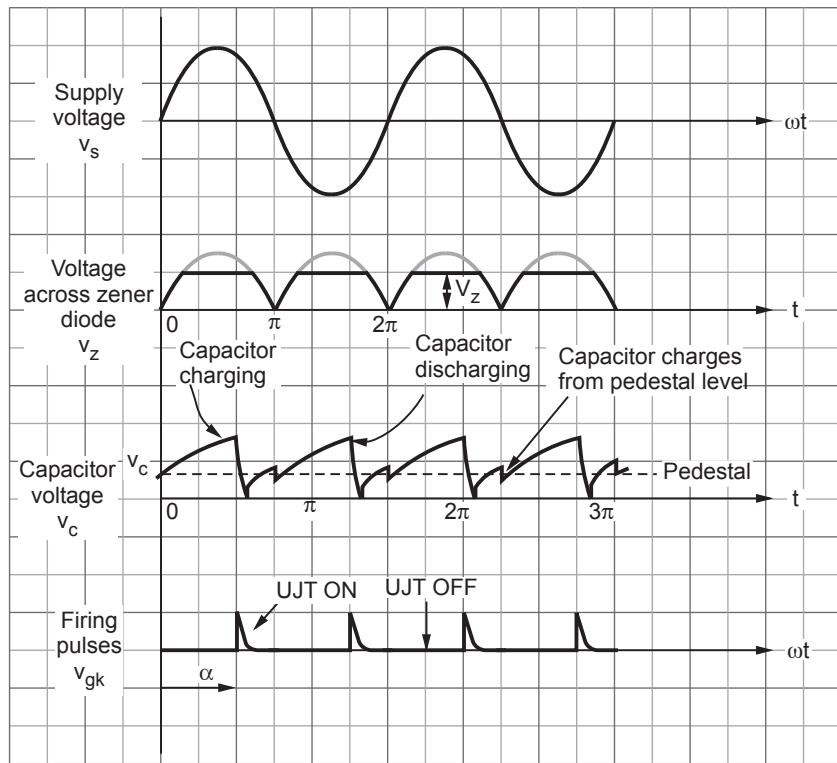
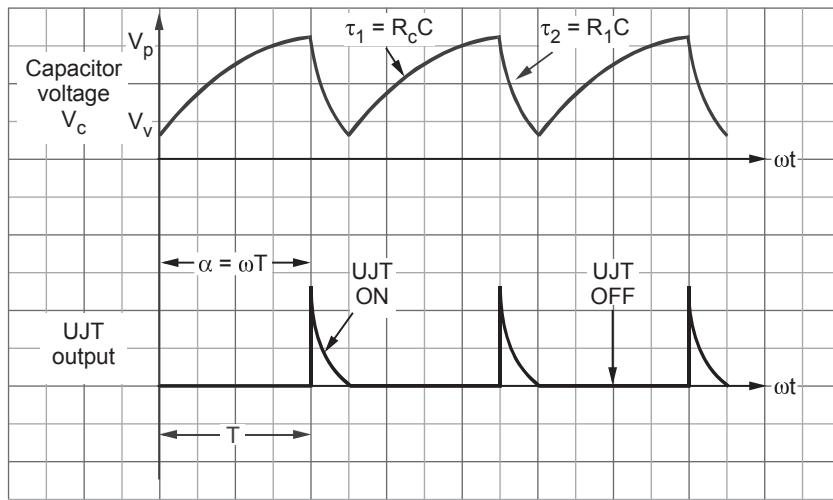

Fig. 1.10.10 Waveforms of UJT triggering circuit
Fig. 1.10.11 Waveforms of free running UJT relaxation oscillator
- The supply voltage is rectified and given to the zener regulator. The voltage of zener diode is V_z . The zener diode clamps the rectified voltage to V_z as shown in the waveforms of Fig. 1.10.10. Hence voltage V_z is applied to the UJT circuit.
- The pedestal control indicates initial voltage level in the capacitor. It can be adjusted through resistance R. The ramp control indicates charging of capacitor from pedestal level. The waveforms of Fig. 1.10.10 shows these levels.
- i) The capacitor charges through resistance R_c . When the capacitor voltage becomes equal to V_p , the peak voltage of the UJT, it turns-on. The capacitor discharges through emitter (E), base (B_1) and primary of pulse transformer. The UJT is turned-on when the capacitor discharges. Since current flows through the primary of pulse transformer, a pulse is generated. This pulse as shown in Fig. 1.10.10 is the gate triggering pulse.
Fig. 1.10.11 shows the waveforms of free running UJT relaxation oscillator. The capacitor voltage waveform and UJT output are shown in the above figure. From Fig. 1.10.10, it is clear that triggering angle will be,
Note that this expression does not require R_{B1} and R_{B2} . Normally pulse transformer is connected at the base B_1 of UJT. Pulses are passed through pulse transformer. This provides isolation between SCR circuit and UJT triggering circuit. The resistance of pulse transformer primary can be denoted by R_1 . This resistance controls width of the triggering pulse. From Fig. 1.10.11, this width is given as,